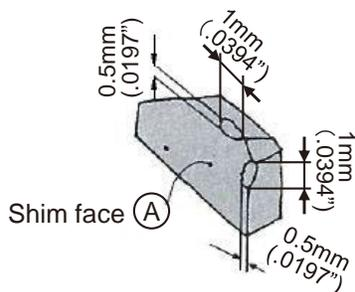

Fig. 5
(1) Guideline for parts lifecycle (Please check the order number of parts in the catalog.)
- The shim should be replaced when its face get serious damage or breakage exceeding W:0.5mm(.0197") * L:1mm (.0394") as shown in Fig. 5.